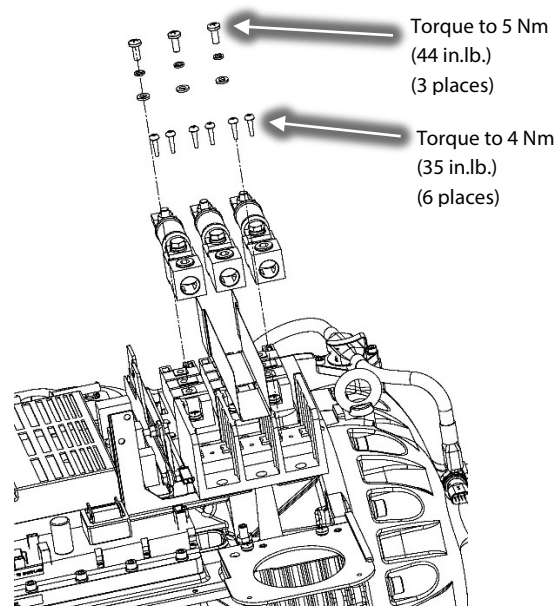

Figure 31 – Fuse Assembly Installation
28. Place the three (3) Fuse Assemblies on the Terminal Block.
29. Secure the three (3) Fuse Assemblies (Bus Bar side) to the SCRs using the M6x16 fasteners with the 3-phase input wires of the Soft Start AC/DC Harness, noting their orientation. Only finger tighten at this point. Refer to Figure 31 (Fuse Assembly Installation) for this and the following two (2) steps.
30. Install the three (3) Fuse Assemblies to the Terminal Block with the six (6) fasteners and torque to 4 Nm (35 in.lb.).
31. Torque the M6x16 fasteners for the Bus Bar side of the three (3) Fuse Assemblies to the SCRs to 5 Nm (44 in.lb.).